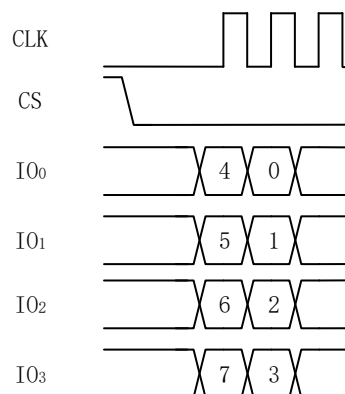

Figure 7 Instruction Sending Sequence in Quad-line Mode
3. To send instructions in the quad-line mode (Quad SPI mode), the IAT bit of control register 3 (QSPI\_CTRL3) needs to be configured to 0x2 and the FRF bit of control register 1 (QSPI\_CTRL1) needs to be configured to 0x2. The instruction sending sequence in quad-line mode is shown in Figure 7 Instruction Sending Sequence in Quad-line Mode.